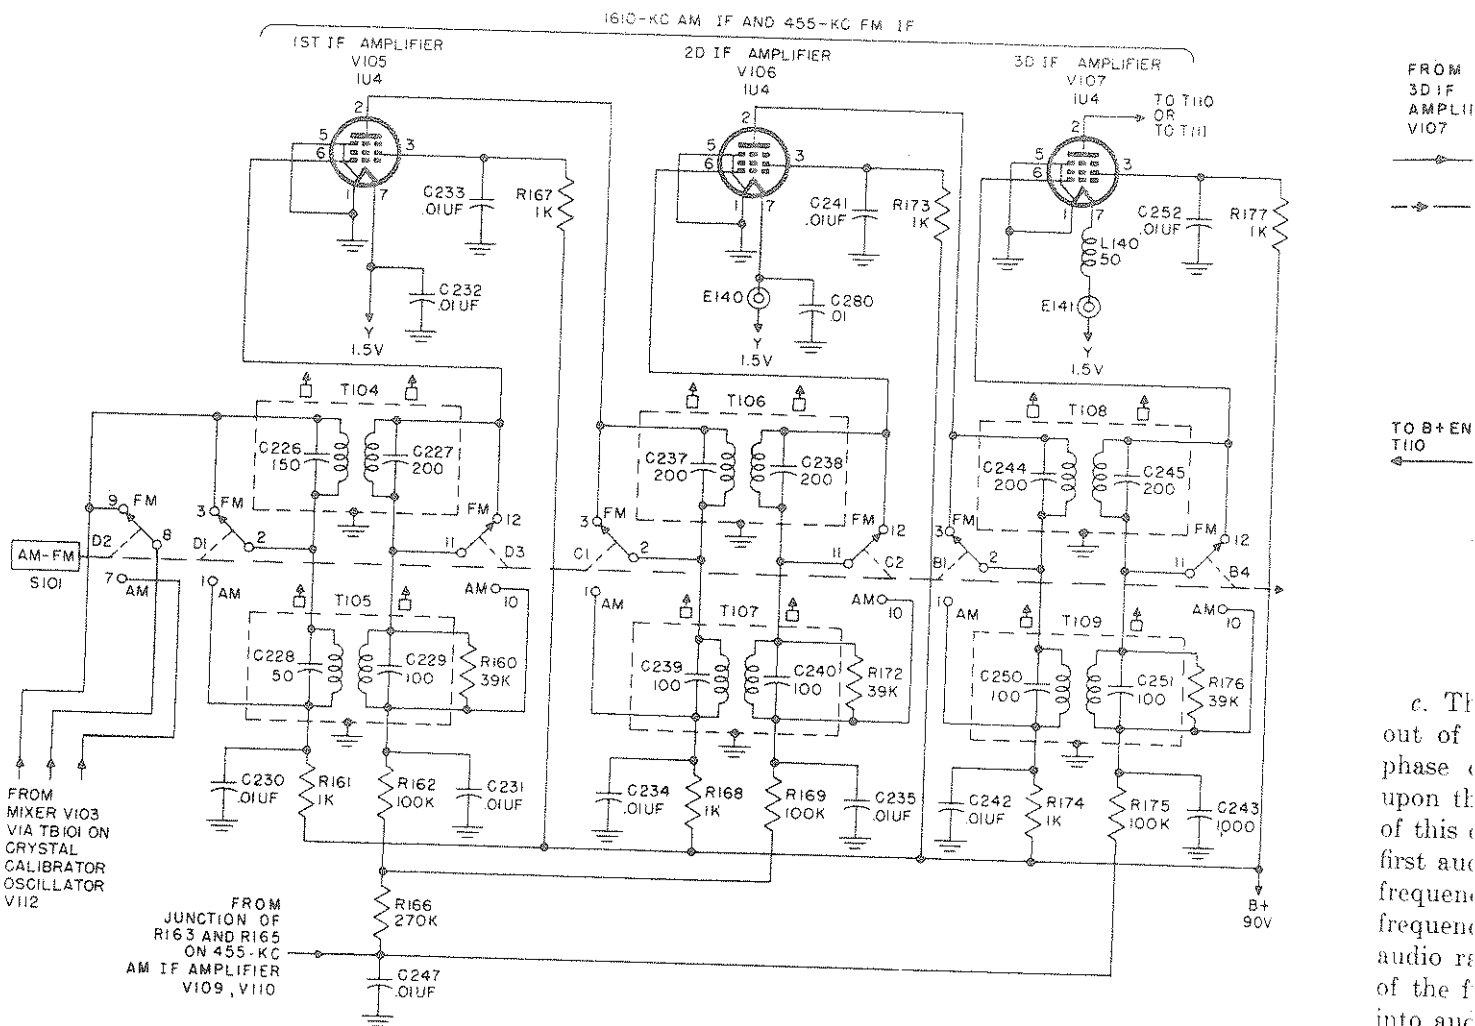

Figure 40. Radio Receiver R-395/PRD-1, functional diagram of 455-kc fm and 1,610-kc am if. amplifiers.
and to V105 (fig. 40) for am signals on band 2 and fm signals on band 7.
77. If. Amplifiers, 455-Kc Fm, and 1,610-Kc Am (fig. 40)
e. Figure 40 shows grid, plate, and screen circuits similar to those described in d above associated with V106 and V107.